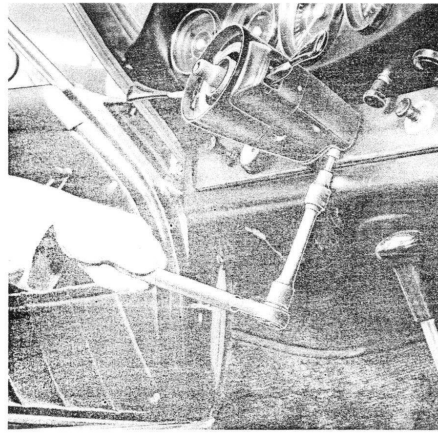

Fig. 101
5. Turn clamp to the right, over the locking pin, torque clamping Allen bolt (use spring washer) to 2, 5 mkp (18,1 lb/ft). See Fig. 101.